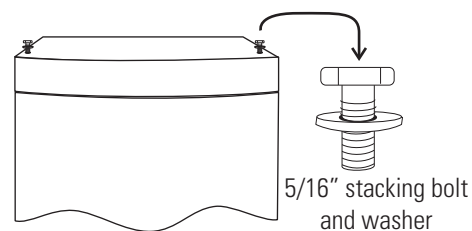

Figure 1-4. Bolt Holes
3. Remove the two plastic plugs from the bolt holes in the exterior top of the bottom unit. Install the 1/2" long 5/16-18 stacking bolts and washers into bolt holes - do not tighten bolts at this time (Figure 1-4).